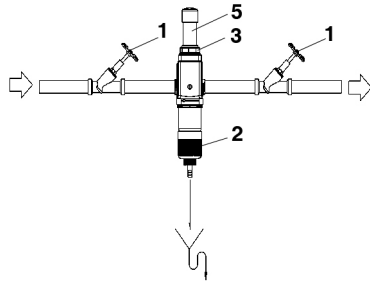

Figure 11. Cartridge exchange IV
6. Screw in the union nut (3) clockwise and tighten it hand-tight (approx. 1 Nm) (see Figure 11).
7. Turn the handwheel for backwashing (2) clockwise all the way to the stop.
8. Open the shut-off valves (1) again.